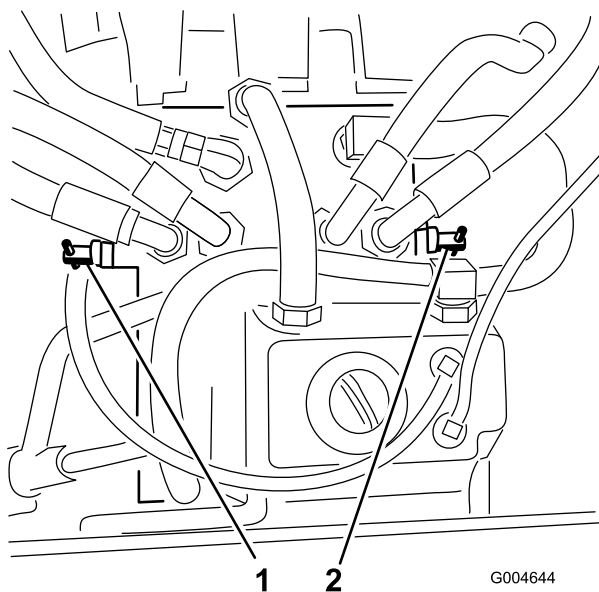

Figure 26
2. Locate the bypass valves (Figure 26) and rotate each bypass valve counterclockwise 1 turn.
4. Close the valves by rotating each valve 1 clockwise turn (Figure 26).